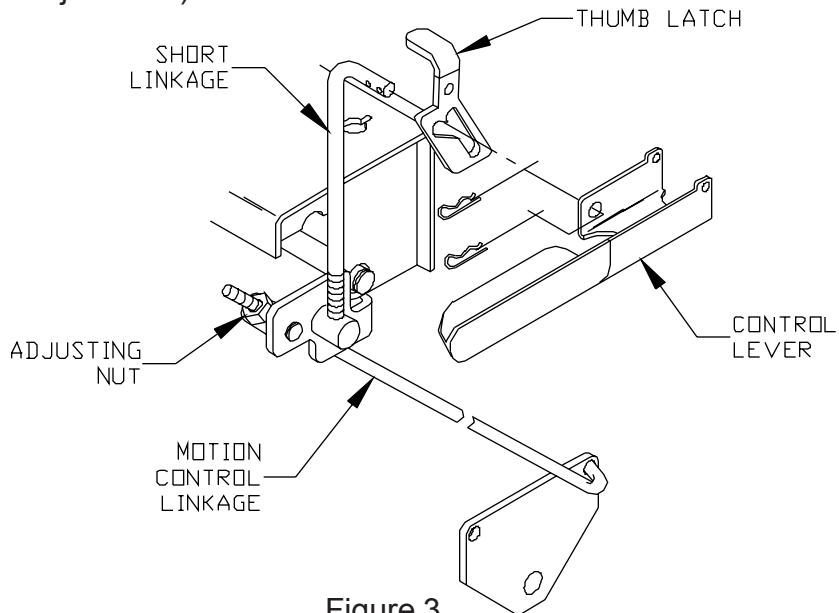

Figure 3
5. Turn the adjusting nut the proper direction until the wheel stops rotating. This is your neutral position, repeat on other side. (see fig. 3)
6. After the neutral position is adjusted. You will need to readjust the short linkage. (see fig. 3)
7. Remove the two hairpins, swing the linkage out of the control lever and the thumb latch. (see fig.3)
8. Turn the short linkage the proper direction in the swivel, so that when the thumb latch is engaged the wheel doesn't turn(or it is in neutral). Reinstall the hairpins and repeat on other side. (see fig. 3)